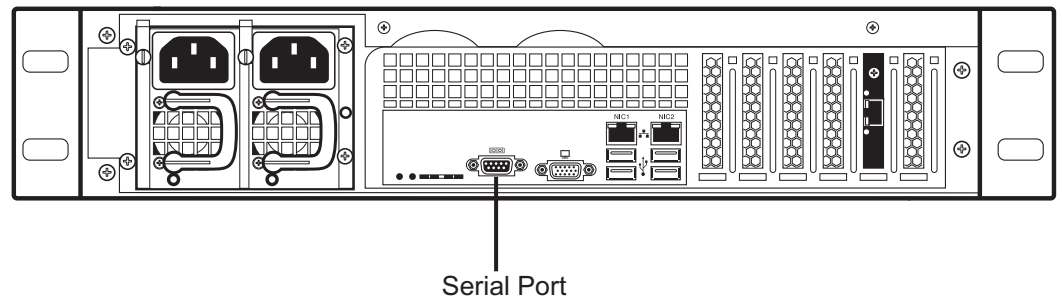

Figure 3.1 Tdev Development Platform Serial Port Connection
1. Connect a male-male DB9 cross-connect cable between the DB9 serial port of your computer and the DB9 serial port of the TMP800-CTRL. See figure 3.1 on page 41.